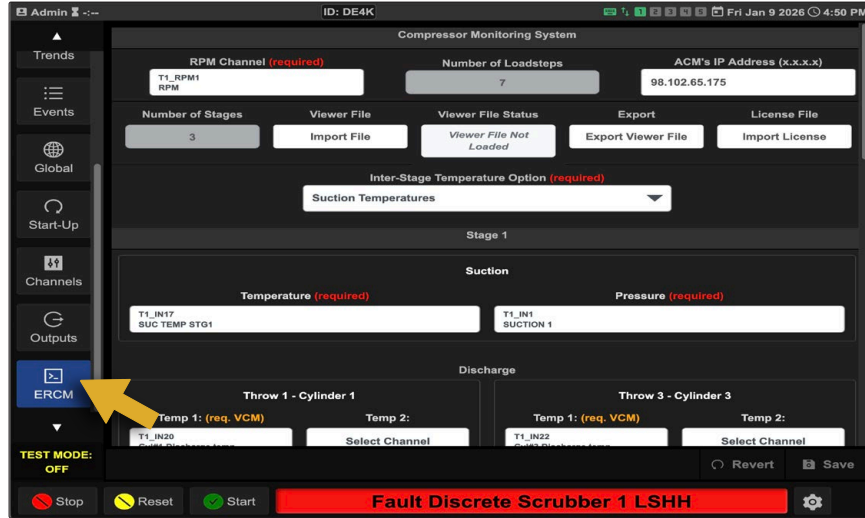

Figure 1
- If your eRCM screen looks like the setup screen in *Figure 1*: skip ahead to step 3.2 Check the eRCM Viewer File Status and Install It If Necessary on page 3.